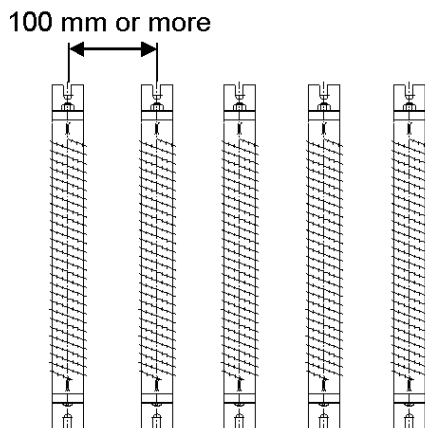

Fig. 4.1b Regenerative Resistor Installation Standard
- ☐ Pay attention to the installation standard below (Fig. 4.1b).